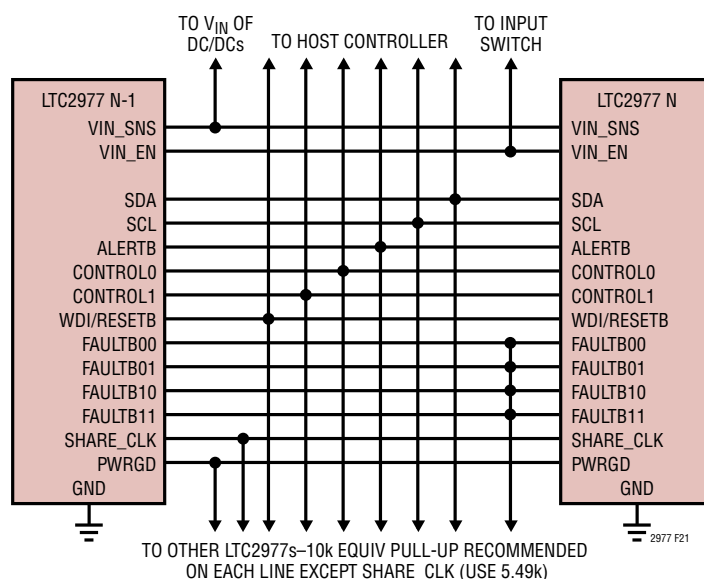
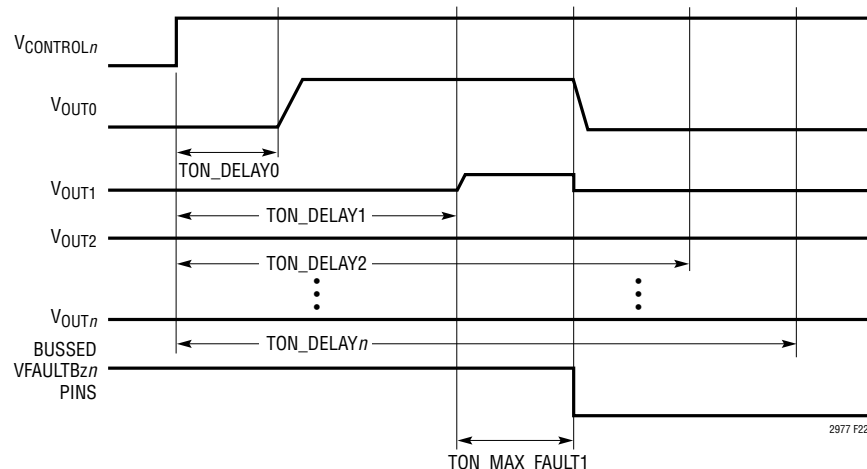

Figure 21. Typical Connections Between Multiple LTC2977s
Figure 22. Aborted On Sequence Due to Channel 1 Short
Figure 21 shows how to interconnect the pins in a typical multi-LTC2977 array.
- The FAULTB $_n$ lines can be connected together to create fault dependencies. Figure 21 shows a configuration where a fault on any FAULTB $_n$ will pull all others low. This is useful for arrays where it is desired to abort a start-up sequence in the event any channel does not come up (see Figure 22).
- PWRGD reflects the status of the outputs that are mapped to it by the MFR_PWRGD_EN command. Figure 21 shows all the PWRGD pins connected together, but any combination may be used.